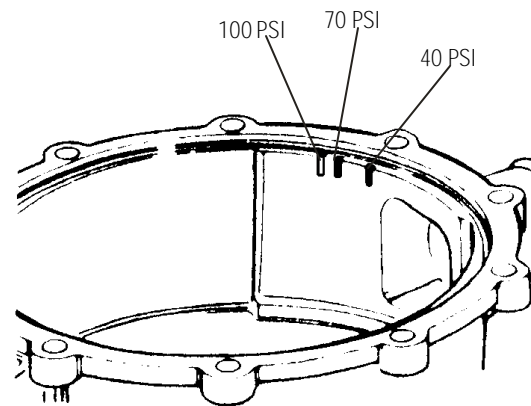

Figure 5
*NOTE: 1½ and 2" units (E**-*Q and F**-*Q models) have three possible positions for installation of the measuring chamber. (See Figure 5) The purpose of these positions is to permit the chamber to be matched to the line pressure of the system, and to prevent overloading or racing beyond the rated capacity. The chamber is shipped from the factory with the chamber in the 70 psi slot. If necessary, change the position to match your average pressure.*